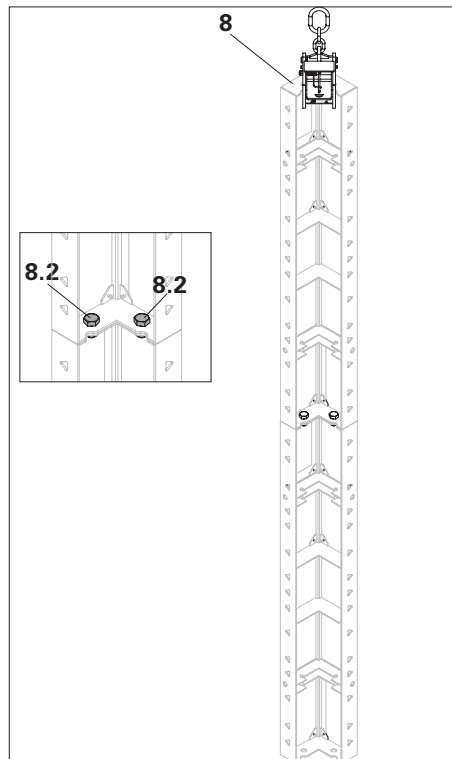

Fig. 6
- Make sure to use two nos. of M20 x 40 size bolt and nut (8.2) art. no. 706458 and art. no. 781053 when lifting the two Internal Corners HSA (8). (Fig. 6)